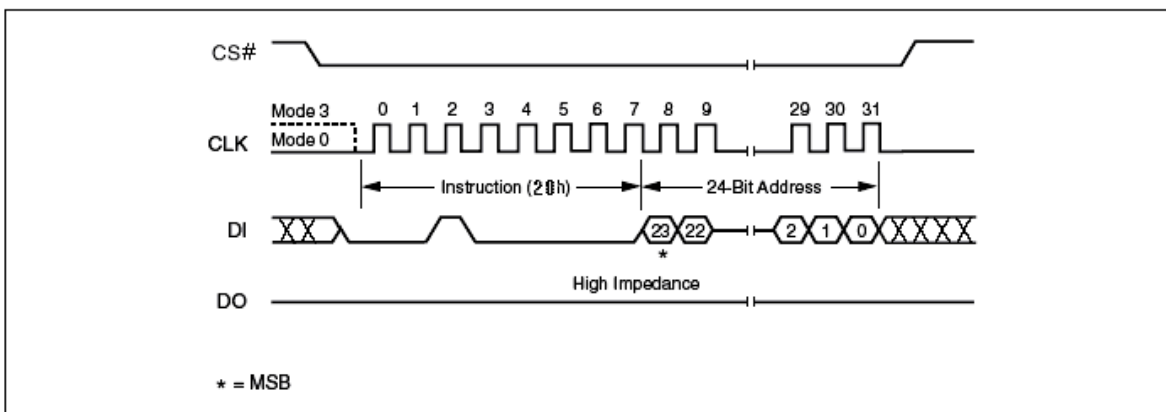

Figure 28. Sector Erase Instruction Sequence Diagram
The instruction sequence is shown in Figure 28. Chip Select (CS#) must be driven High after the eighth bit of the last address byte has been latched in, otherwise the Sector Erase (SE) instruction is not executed. As soon as Chip Select (CS#) is driven High, the self-timed Sector Erase cycle (whose duration is t^{SE}) is initiated.